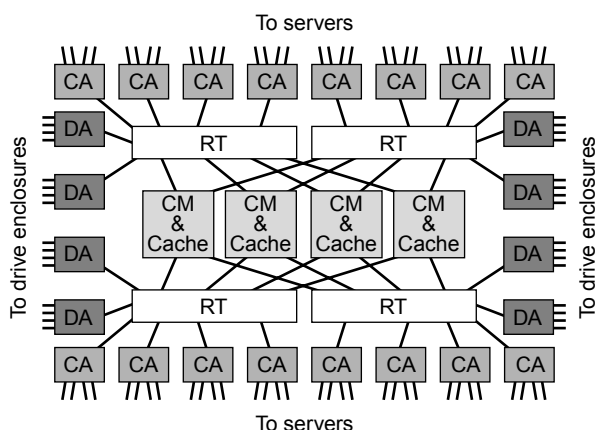

Figure 1
**Figures 1 and 2** show the architectures of